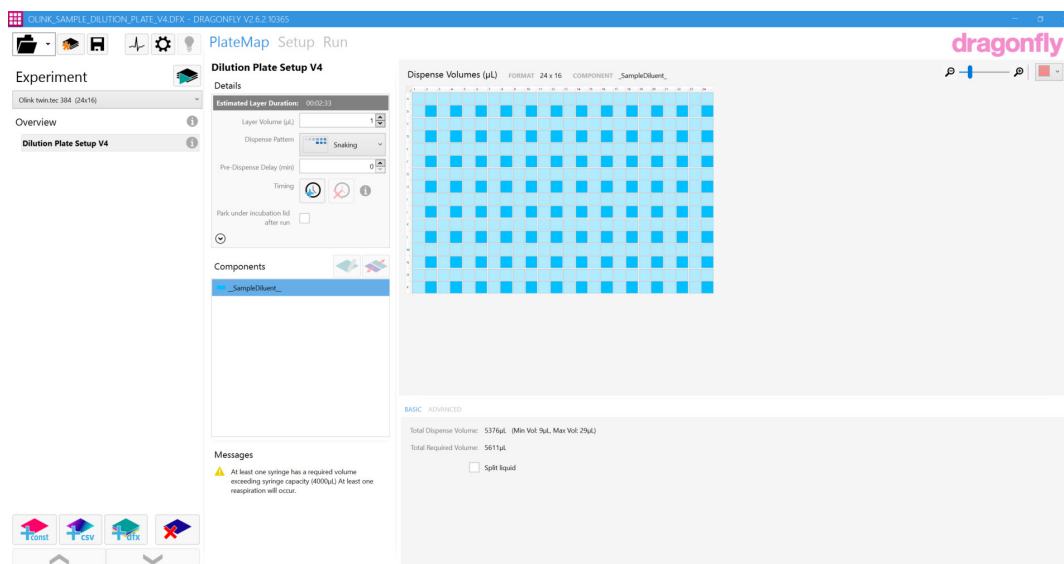

Figure 8. Constant Layer selected (here: Sample Dilution Plate)
4. Select *Constant Layer* to show the *Plate Map* with the layout of the applicable plate (Figure 8).